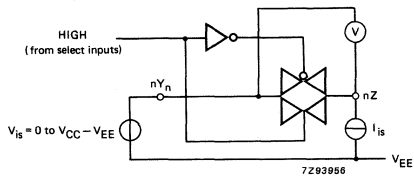

Fig. 8 Test circuit for measuring RON.
- For test circuit measuring R_{ON} see Fig. 8.